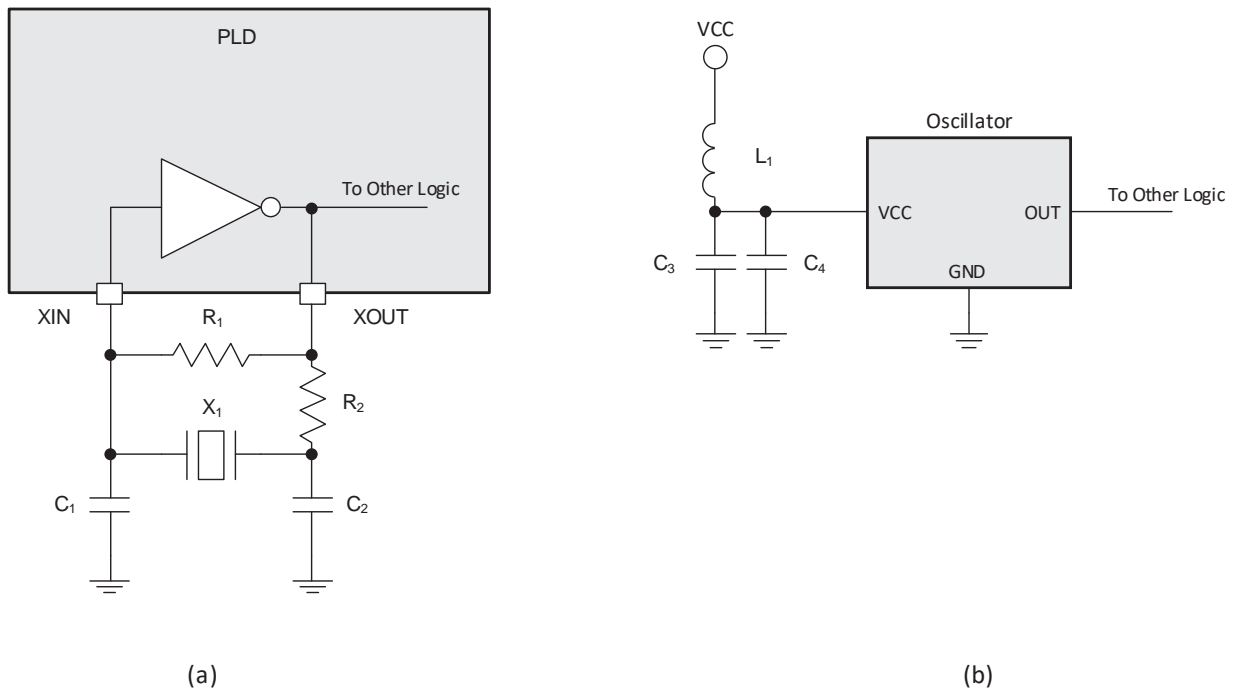

Figure 2.2. Oscillator Circuit using an Inverter within a PLD (a) vs. Integrated Oscillator (b)
Figure 2.2. (a). Typically this type of oscillator circuit is built with a series of three inverters to provide enough phase delay for oscillation to take place. However, this is not required when using Lattice Semiconductor PLDs. The input buffer and output buffer (not shown) provide enough delay that a single inverter is all that is needed for the oscillator circuit to function. The two capacitors C1 and C2 are part of the load capacitance (CL) which is specified in the crystal data sheet. The resistor R1 is part of feedback path while R2 limits the drive power seen by the crystal. Crystal manufacturers usually provide documentation with recommended values for the resistors and capacitors.